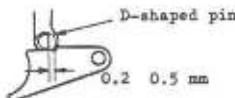

Fig. 4-43
- a When the back cover is opened with the shutter un-cocked, a proper clearance must be maintained between the step of the stabilizer and D-shaped pin on the stopper release lever, as shown in Fig. 4-43.